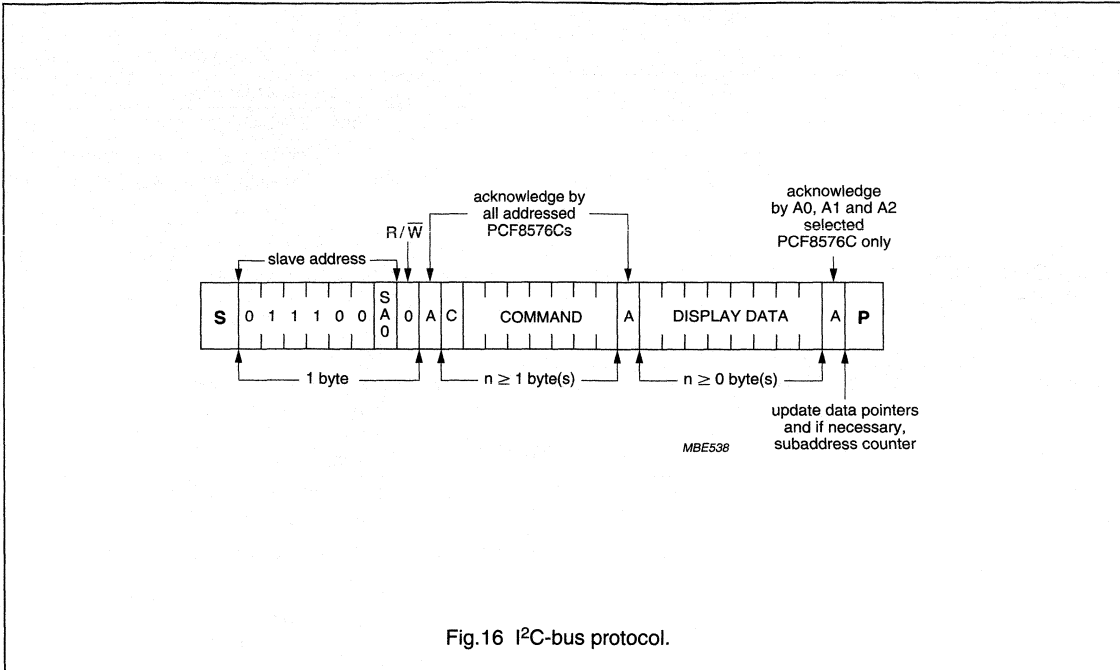

Fig.16 I²C-bus protocol.
The I²C-bus protocol is shown in Fig.16. The sequence is initiated with a START condition (S) from the I²C-bus master which is followed by one of the two PCF8576C slave addresses available. All PCF8576Cs with the corresponding SA0 level acknowledge in parallel with the slave address but all PCF8576Cs with the alternative SA0 level ignore the whole I²C-bus transfer.